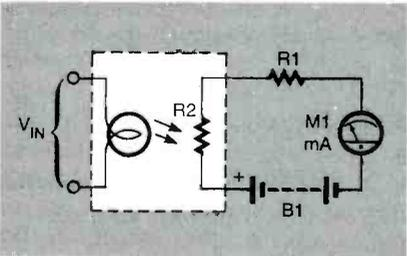

Fig. 12. A photocell type of analog optoisolator/coupler is ideal for true rms (root mean squared) measurement.
**True RMS Measurement.** A photocell type of analog optoisolator/coupler is ideal for true rms (root mean squared) measurement. Since the light output of an incandescent lamp is directly related to the rms value of the applied voltage, the resistance of the photocell viewing the lamp is an accurate measure of the rms voltage applied to the lamp. A typical rms measurement circuit is shown in Fig. 12.